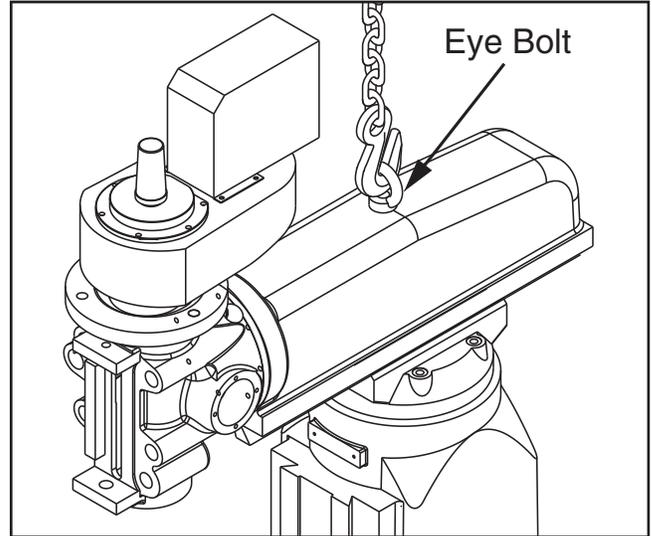

Figure 12. Lifting hook inserted in eye bolt.
5. Place lifting hook through eye bolt (see **Figure 12**) and slowly lift mill with forklift enough to clear pallet.